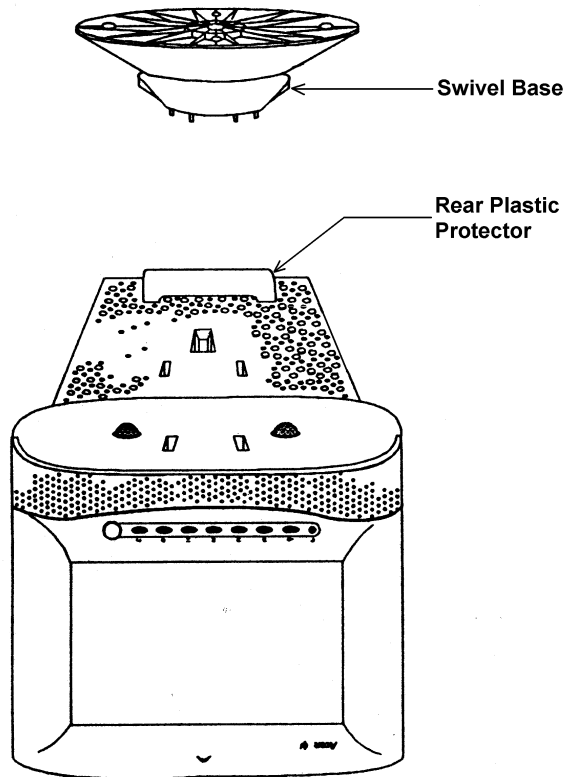

Figure 1, Monitor Bottom View
15. Remove the swivel base and the rear plastic protector from the ACER monitor and discard. Refer to figure 1, below. If you have a Sampo monitor, just, remove the swivel base if attached.